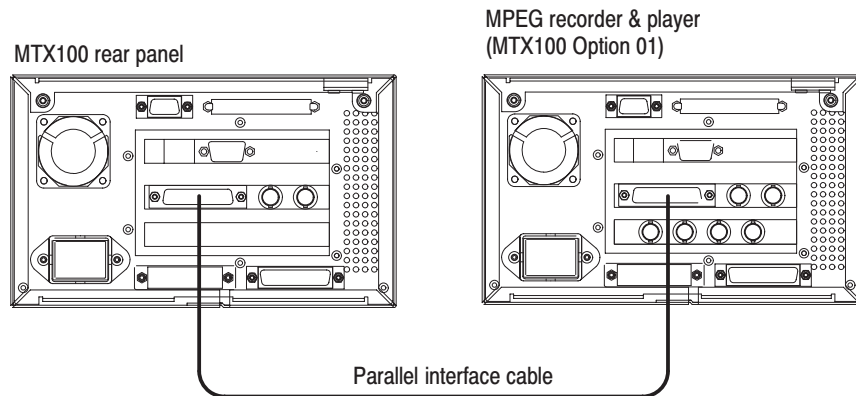

Figure 4-4: Initial equipment connection for verifying the SPI interface
1. Use the parallel interface cable to connect the SPI IN/OUT connector on the MTX100 to the SPI IN/OUT connector on the MPEG recorder & player as shown in Figure 4-4.